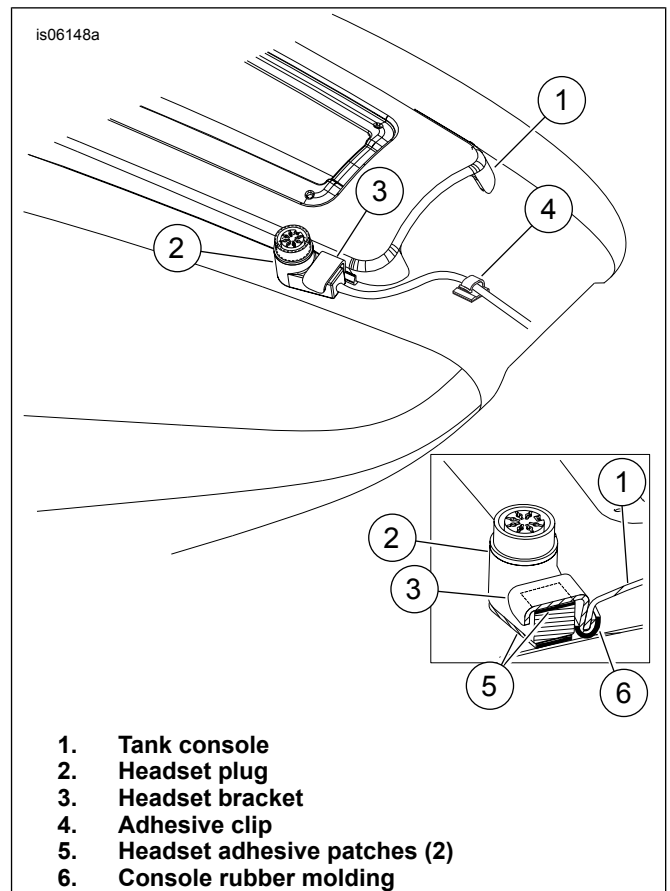

Figure 6. Mounting Rider Headset Plug
4. See Figure 6. Clean the clip mounting area with a mixture of 50-70% isopropyl alcohol and 30-50% distilled water. Allow to dry thoroughly. The adhesive back clip will be secured to the lower portion of the fuel tank, so it will be covered by the seat.
- a. Install the adhesive back clip (4) on the wire harness. Do not remove the adhesive backer at this time.
- b. Install the narrow end of the headset bracket (3) between the console molding strip and the console at the lower left corner of the console as shown in Figure 6.
- c. Trim the adhesive patch (5) to the shape of the back of the headset plug (2), remove one side of backer and apply to the back of the connector plug to protect the tank from scuffing. Trim the adhesive patch to a 12 x 6 mm ( x in) rectangle. Remove one side of the backer and apply to the underside of the bracket as shown.
- f. Install the adhesive back clip (4) as shown. Remove the adhesive backer from the clip and install the clip onto the fuel tank where it will be covered by the seat.